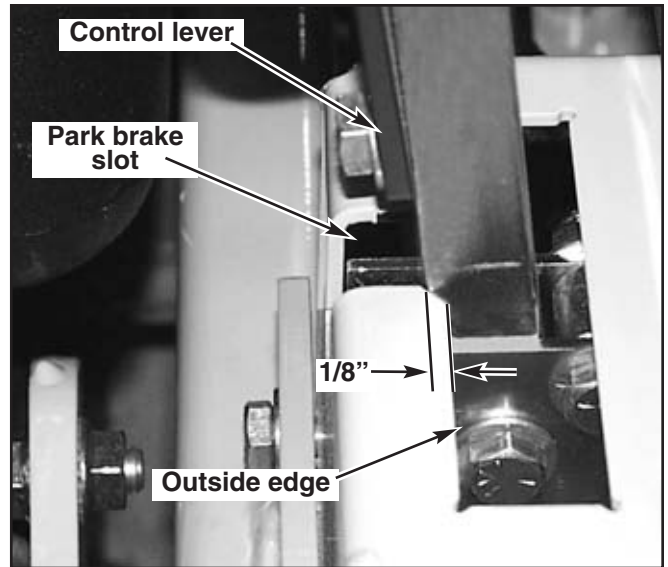

Figure 11-28
5. Move the control lever to where it is just inside (1/8") the park brake slot. Fig. 11-28
9. Place the control lever in the park brake slot (Fig. 11-28). The tire should not rotate when the control lever is in the park brake position.